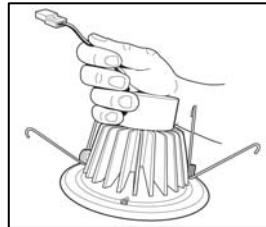

Figure 5
DO NOT LET THE MODULE HANG UNSUPPORTED BY THE ORANGE CONNECTORS. (Figure 5)
4. Plug orange connector from the module into the mating orange connector just installed into the recessed can. Push the wires and mated connectors up into the recessed can. DO NOT LET THE MODULE HANG UNSUPPORTED BY THE ORANGE CONNECTORS. (See Figure 5)